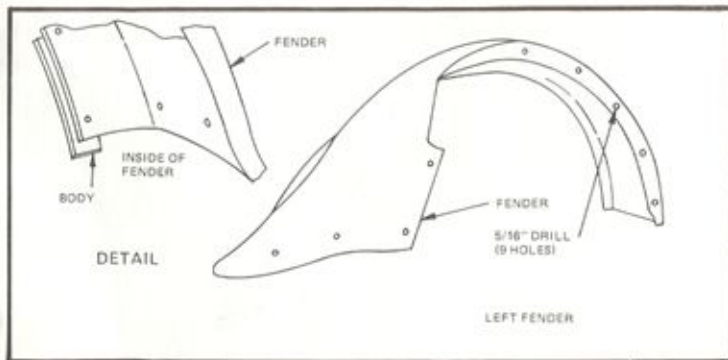

Figure 58
- Drill as per diagram (5/16"). (Figure 58) Align front of fender with rear of running board. The rest of the fender will fit into place, indexing with the rear body. Clamp to body and running board. Do not bolt.